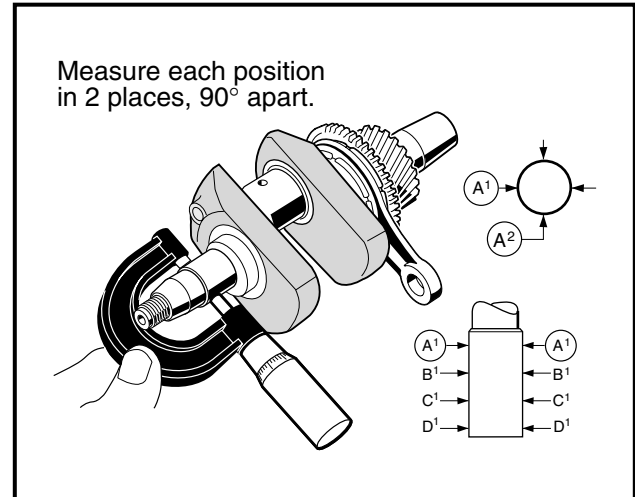

Figure 13-84 Measure Crankshaft Journals
2. Using a micrometer, measure both main journals (PTO side and flywheel side) at several points along their lengths (**Figure 13-84, Page 13-40**).